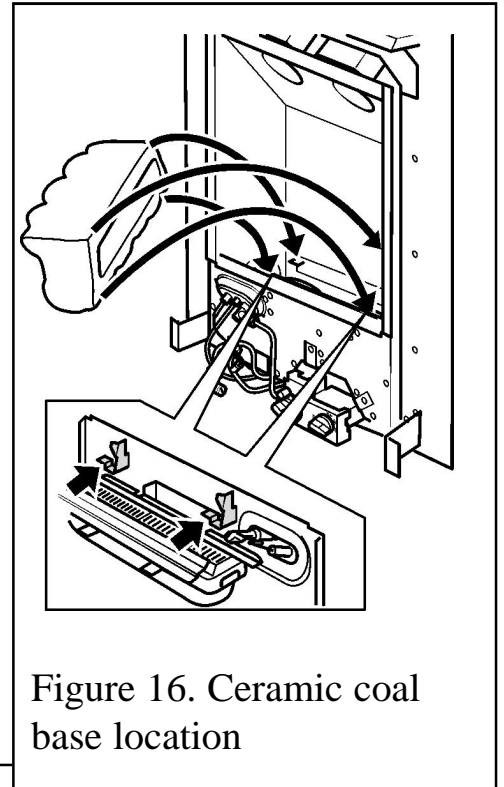

Figure 16. Ceramic coal base location
1. Fit the ceramic coal into the fire above the burner. The front of the ceramic coal should locate on the horizontal faces but behind the vertical faces of the two location brackets positioned at the front of the burner module. See figure 16.